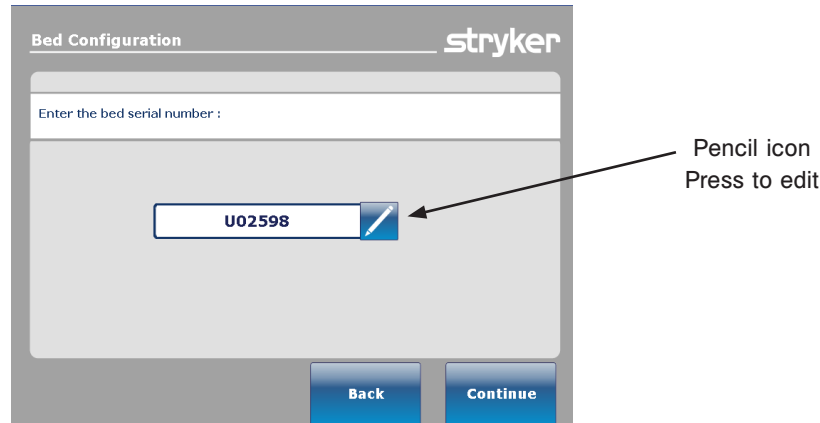

Figure 32: Bed Configuration Serial Number Screen
1. Press and hold the **HOB 30** button and the **Vascular Position** button at the same time for 25 seconds then release both buttons. The Bed Configuration - Serial Number screen (Figure 32) will be displayed.
2. Enter or confirm the serial number of the bed (Figure 32).
- ii. Enter the serial number of the bed in the serial number field then press the **OK** button. You will be returned to the serial number main screen as shown in Figure 32